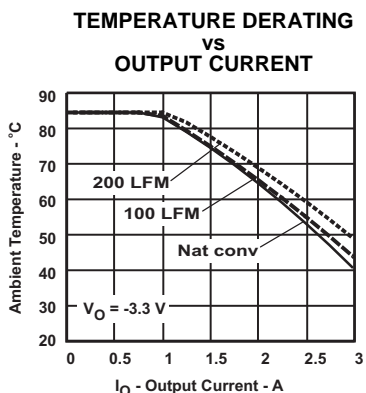
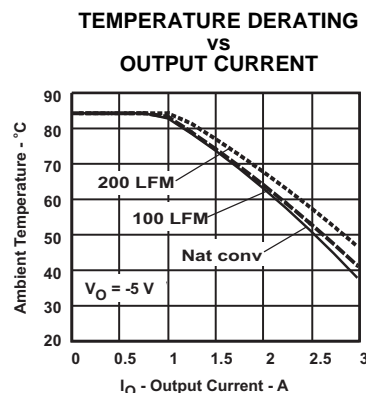

Figure 16.
Figure 17.
- (2) The temperature derating curves represent the conditions at which internal components are at or below the manufacturer's maximum operating temperatures. Derating limits apply to modules soldered directly to a 100 mm x 100 mm, double-sided PCB with 2 oz. copper. For surface mount packages (AS and AZ suffix), multiple vias (plated through holes) are required to add thermal paths around the power pins. Please refer to the mechanical specification for more information. Applies to Figure 16, and Figure 17.